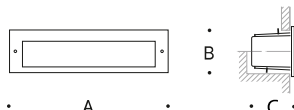

Figure 1: Included brackets
1. Install (2) slotted mounting brackets provided as shown in Figure 1, using the (4) self-tapping T25 torx head screws provided with the included kit (Kit #74).